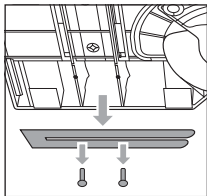

Fig. 1
- ◆ Remove the retaining clips **8** from the underside of the product and remove the guide rods **7** (see fig. 1).